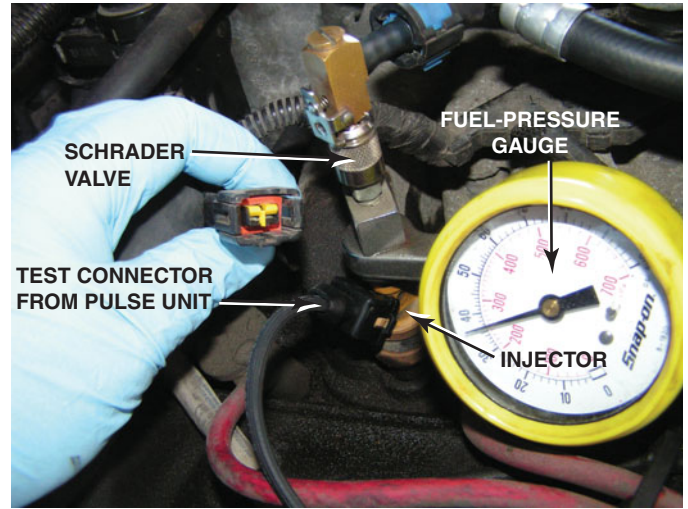

FIGURE 23-15 Connect a fuel-pressure gauge to the fuel rail at the Schrader valve.
- STEP 3** Turn the ignition key to the on position to prime the fuel rail. Note the static fuel-pressure reading. ● **SEE FIGURE 23-15.**